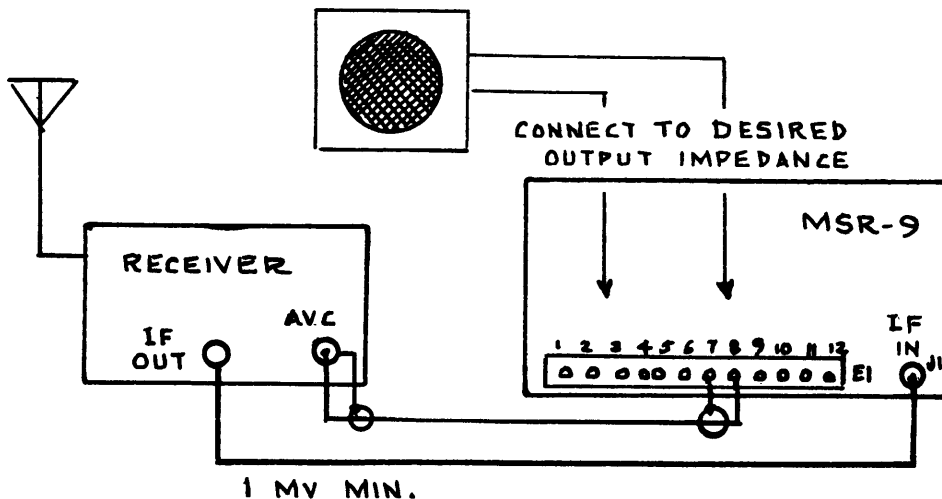

Figure 3
1. Connect receiver to MSR-9 as shown in figure 3.